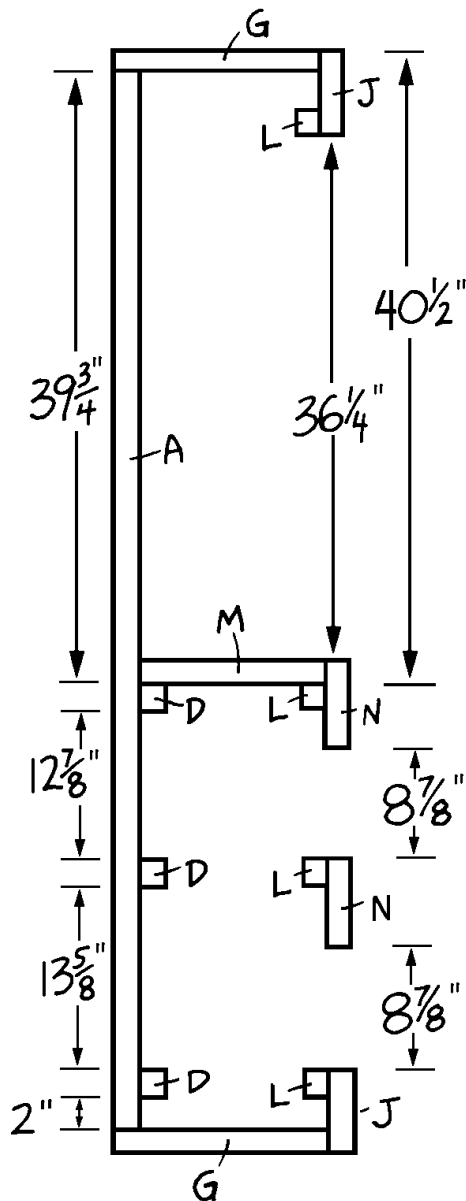

Figure 7
1. Cut four 39- $\frac{5}{8}$ " horizontal inner supports (L) from  $\frac{3}{4}$ " x  $\frac{3}{4}$ " pine. These will fit behind the narrow and wide horizontal frames (J and N)
and will support the inner shelves as well as stabilizing the narrow horizontal frames (J) that just attached. A cutaway view of the placement of the inner supports on the left side of the armoire is provided in *Figure 7*.
2. Glue one horizontal inner support (L) onto the inner edge of each of the narrow horizontal frame pieces (J), positioning them as shown in *Figure 7*. Secure the supports with 3d finishing nails, spaced 6" apart.
3. Attach a third horizontal inner support (L) 40-1/2" from the top edge of the armoire, across the front opening. It should be exactly level with the shelf support (D), which you previously attached to the wide back (A). Use 3d finishing nails to secure it to the back faces of the narrow front vertical (H) and the center front vertical (I).
4. Cut one 41-1/8" upper shelf (M) from 1 x 12 pine, and rip the shelf to 10-1/2" in width. The shelf will fit on top of the horizontal inner support (L) which you just attached and the shelf support (D) on the wide back (A), as shown in *Figure 7*. In order to make the shelf fit, each of the corners must be cut out to accommodate the inner vertical supports (C) inside the armoire. Cut out a square from each corner of the upper shelf (M), measuring just over 3/4" x 3/4", as shown in *Figure 8*.
8. We're finally going to use that fourth horizontal inner support (L) that you've been so worried about! Bet you thought we forgot. Attach this support (L) across the 36"-wide opening, 12-7/8" below the horizontal inner support (L) that is under the upper shelf (M), as shown in *Figure 7*. Nail and glue the support (L) to the inner faces of the center front vertical (I) and the narrow front vertical (H).
9. Glue the remaining wide horizontal frame (N) to the horizontal inner support (L), which you just attached. The long upper edge of the wide horizontal frame (N) should be flush with the top edge of the horizontal inner support (L).
10. Cut four 21-5/8"-long short inner supports (O) from 3/4" x 3/4" pine. These will fit behind each of the short horizontal frames (K) on the right side of the armoire to stabilize the joints.
11. Glue and nail one short inner support (O) to the inner face of the short horizontal frame piece (K) at the top of the armoire, flush with its edge. Secure the support with 3d finishing nails spaced about 6" apart.
12. Repeat Step 11 to attach the second short inner support (O) to the short horizontal frame piece (K) at the bottom of the armoire.